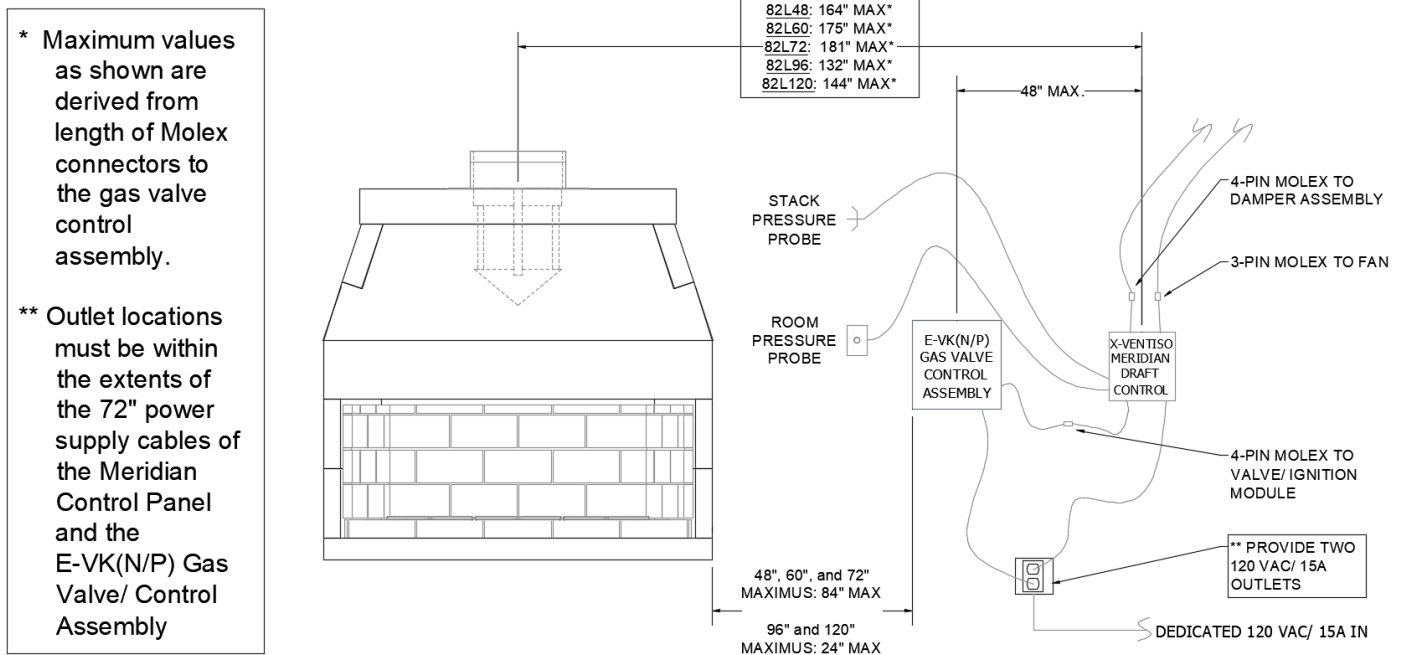

FIGURE 23
- The location of the Meridian Control Panel is dependent upon the fireplace model and must be within the values shown in **(Figure 23)**. The distances shown are as measured horizontally from the fireplace flue-outlet.
NOTE: the Isoflames Linear Burner’s gas valve control box location is also dependent upon the fireplace model/ burner size. It must be located within 84” of the sidewall of the firebox for the 48”, 60”, and 72” Maximus Linear and within 24” for the 96” and 120” Maximus Linear **(Figure 23)**.
- Two 120 VAC / 15A outlets must be provided at the chosen location on a dedicated circuit; one for the Meridian Control Panel, the other for the Gas Valve Control Box . These outlets must be within the extent of the 72” power supply cables of the Meridian Control Panel and the E-VK(N/P) Gas Valve Control assembly **(Figure 23)**.
- 3) Connect the top port of the Meridian Control Panel's pressure ports with the supplied tubing to the "Stack Pressure" vent probe (**Figure 23, 24 & 26**). This will be connected to the chimney at a location 12" above the anchor plate.
- 4) Connect the lower port of the Meridian Control Panel's pressure ports with the supplied tubing to the "Room Pressure" probe/ cover plate (**Figure 23, 25 & 26**). The other end will be connected in a suitable location in the room in which the fireplace is installed. This location must be in the same pressure zone as the fireplace opening, and within reach of the supplied tubing's connection to the X-VENTISO Meridian Draft Control Panel. Do not locate sensor in close proximity to exterior doors, opening windows, supply air diffusers, or other know air disturbances. The tubing measures 20ft.